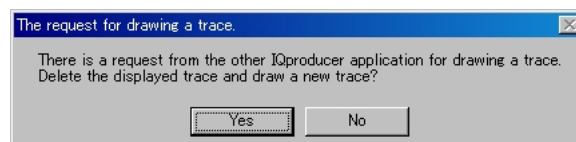

Figure 3.6-4 Confirmation Message
2. Select **FFT** from the **Simulation** menu or click the  tool button. The confirmation message shown in Figure 3.6-4 below appears: